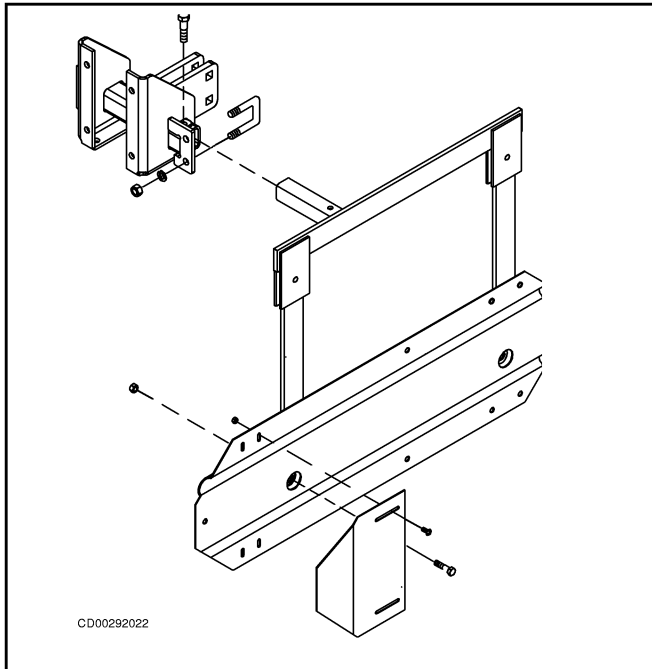

Figure 45 Attaching Shields
1. Attach shield guides, using 1/4 NC x 1" carriage bolts and hex nuts as shown in Figure 45.